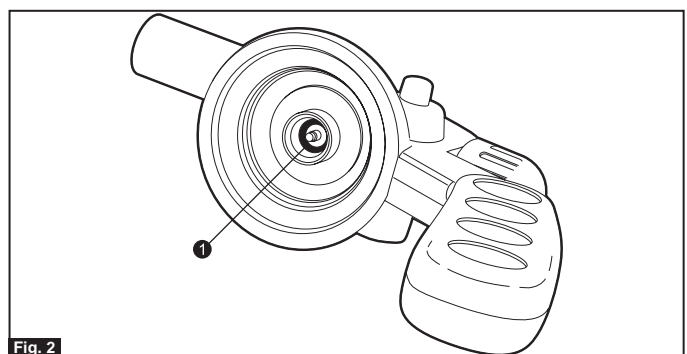

Fig. 2
- 1.1 Check that the seal (1) (Fig 2.) is in place and in good condition before connecting the gas container to the appliance. Do not use the appliance if it has a damaged or worn seal. Replace it.